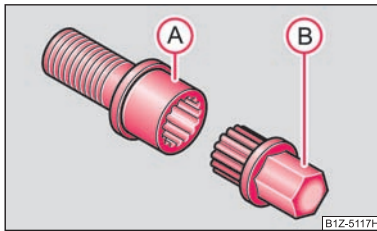

Fig. 139 Safety wheel bolt with adapter
- Insert the adapter **B** with its toothed side fully into the inner tooting of the safety wheel bolt **A** right down in such a way that only the outer hexagon is jutting out ⇒ fig. 139.